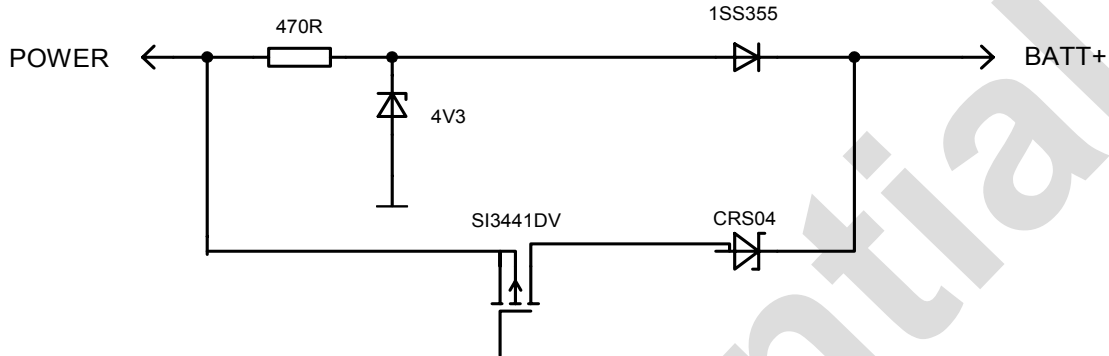
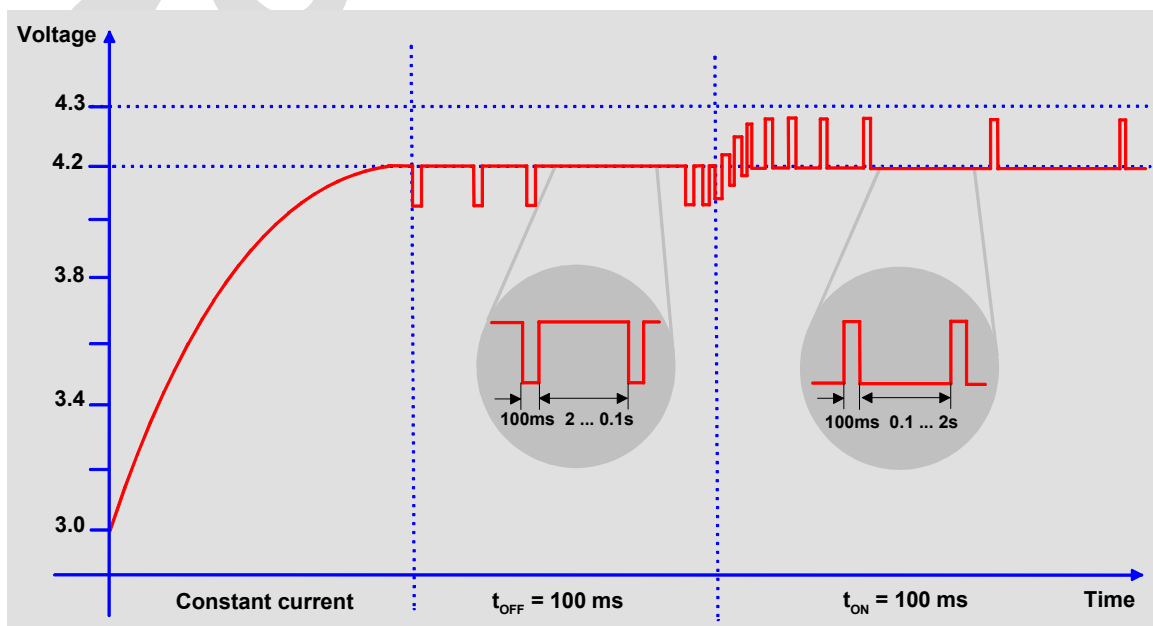

Figure 9: Internal charging circuit
Figure 10: Charging process
Charging can be accomplished in a temperature range from 0°C to +45°C. The charging process supports trickle charging and processor controlled fast charging. The trickle charge current passes the 470Ω resistor path as shown in Figure 9.
- After trickle charging has raised the battery voltage to 3.2V within 60 minutes $\pm 10\%$ from connecting the charger, the power ASIC turns on and wakes up the baseband processor. Now, processor controlled fast charging begins. If the battery voltage was already above 3.2V, processor controlled fast charging starts just after the charger was connected to the POWER pins. Please note that the fast charging current passes the SI3441 transistor path, see Figure 9. If TC35i was in POWER DOWN mode, it turns on and enters the Charge-only mode along with fast charging (see also Chapter 3.3.1.3.). Fast charging delivers a constant current until the battery voltage reaches 4.2V and then proceeds with varying charge pulses. As shown in Figure 10, the pulse duty cycle is reduced to adjust the charging procedure and prevent the voltage from overshooting beyond 4.2V. Once the pulse width reaches the minimum of 100ms and the duty cycle does not change for 2 minutes, fast charging is completed.